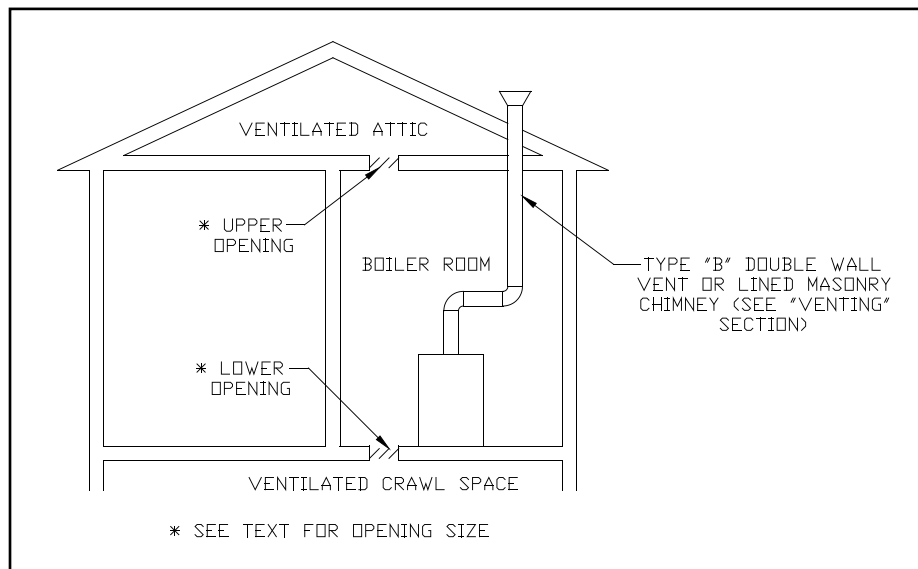
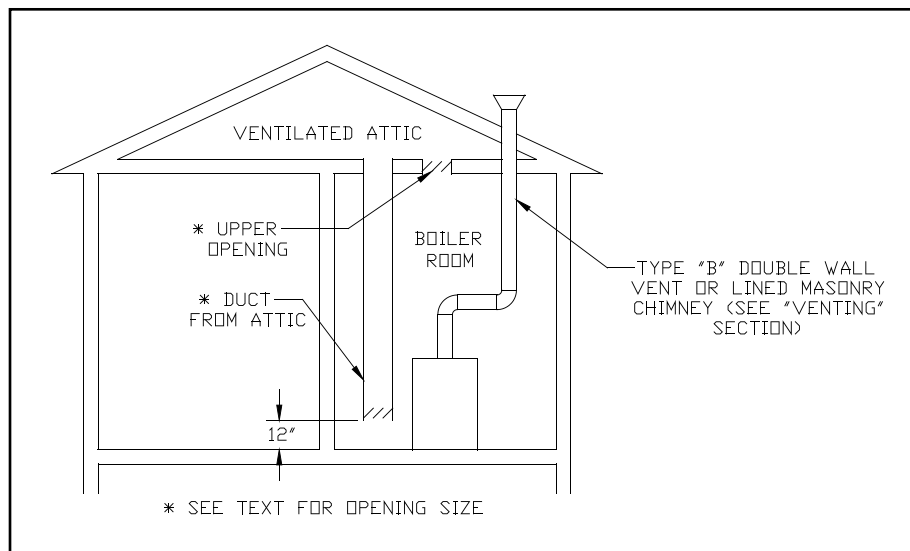
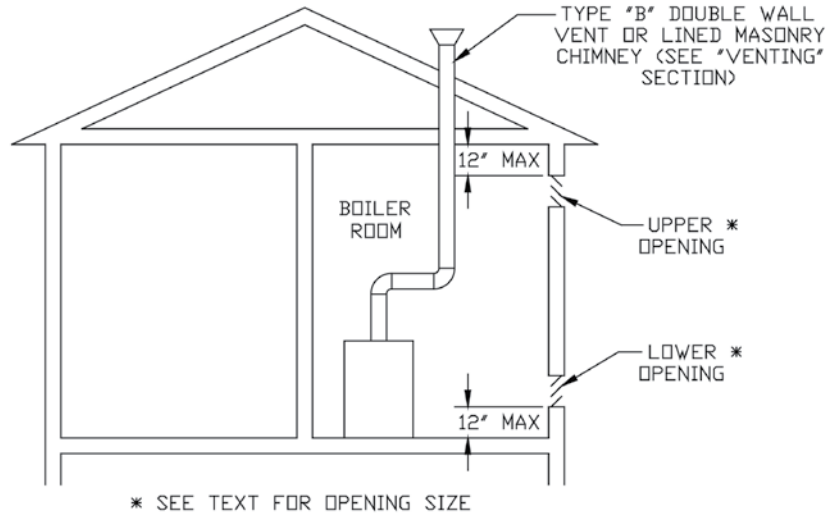

FIGURE 4: ALL AIR FROM OUTDOORS, VENTILATED CRAWL SPACE AND ATTIC
FIGURE 5: ALL AIR FROM OUTDOORS, VIA VENTILATED ATTIC
FIGURE 6: ALL AIR FROM OUTDOORS, USING OPENINGS INTO BOILER ROOM
- Vertical ducts or openings directly outdoors (Figure 4, Figure 5, and Figure 6) - Each opening must have a free cross sectional area of 1 square inch per 4000 BTU/hr of the total input of all gas-fired appliances in the boiler room but not less than 100 square inches. Minimum opening size is 3 inches.